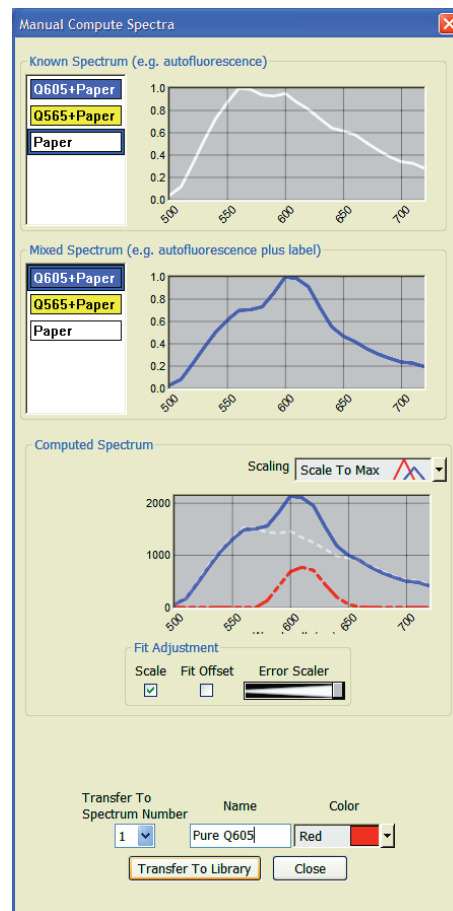

Figure 23. Manual Compute Spectra
- First, try sliding the **Error Scaler** until the spectra are aligned as closely as possible. (The **Scale** option is discussed further in “Error Scaling When Manually Computing Spectra” on page 75.) Yours should look similar to the plot shown in Figure 23.